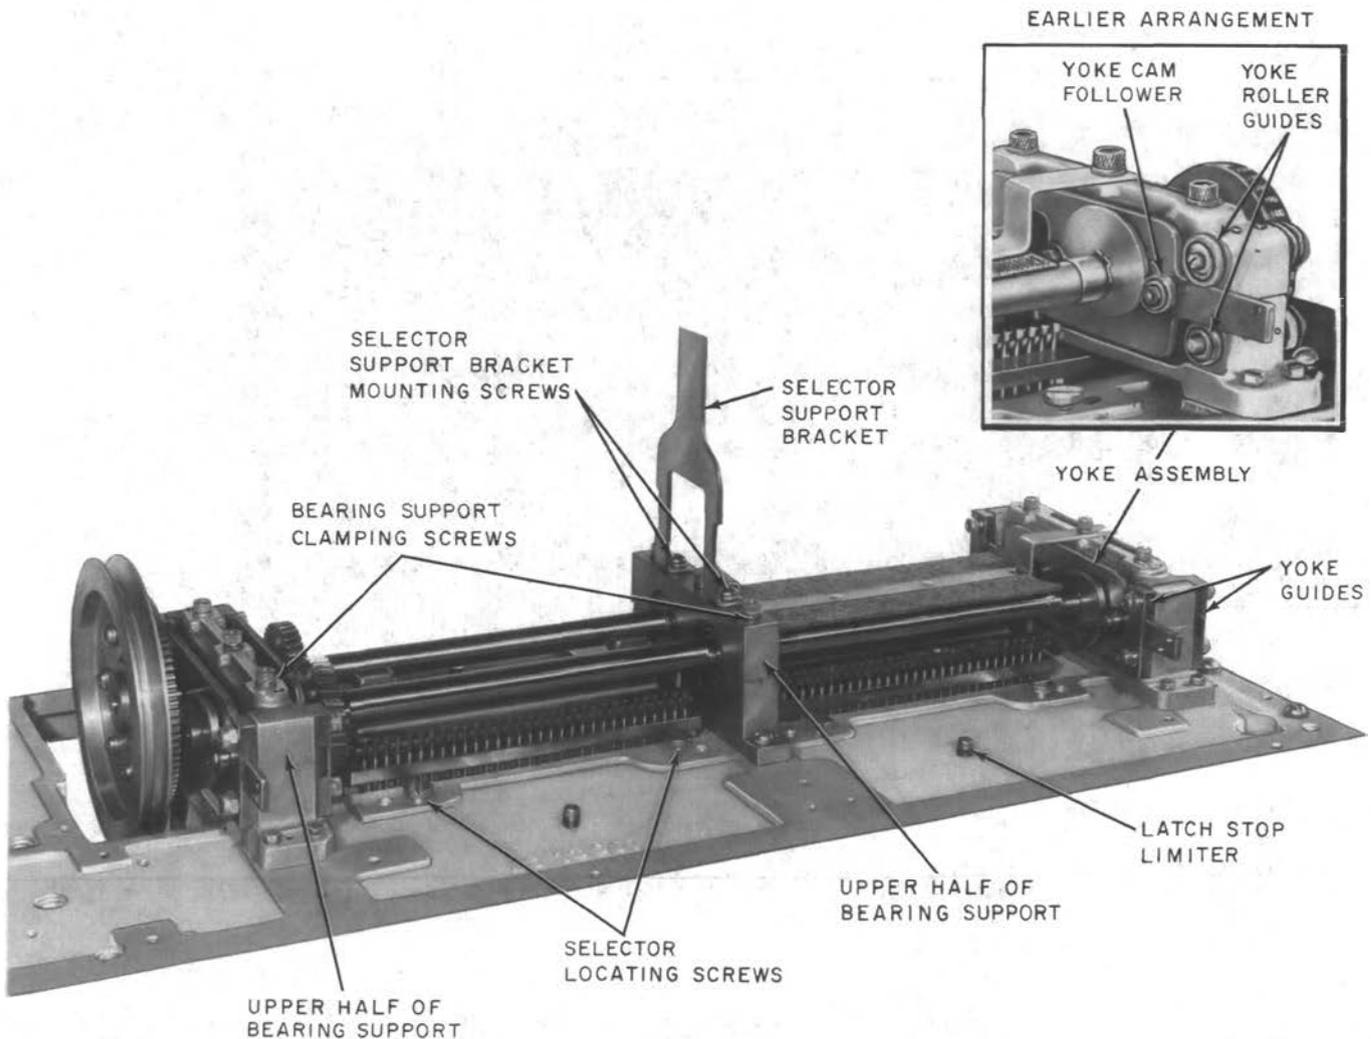

Fig. 51—KS-13902 Cam Drive Assembly
- (13) Remove the dowel pin from each end of the selector using the P long-nose pliers and the shank of the 4-inch E screwdriver as a fulcrum.
- (14) Free the connectors from their mounting brackets.
- (15) Grasp both ends of the selector and gently pull the selector forward to disengage the slots at the bottom from their associated locating screws in the perforator frame (Fig. 51).
- (16) Tilt the selector inward and raise sufficiently to clear the latch stop limiters (Fig. 51).
- (17) Remove the selector.
- (18) Repeat (9) through (11), as required, for the other selector.
Remove Camshaft Assemblies (Fig. 51)